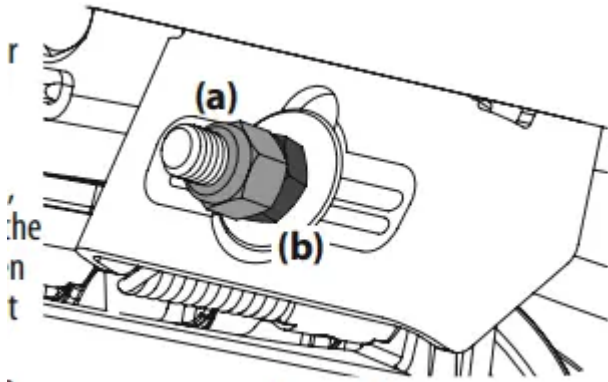

Figure 36
5. To raise the front of the deck, remove the end cap, loosen the outer jam nut (a) then tighten (thread inward) the inner nut (b) against the front hanger bracket. See Figure 36. When proper adjustment is achieved, re-tighten the outer jam nut (a) and replace the end cap.
6. To lower the front of the deck, remove the end cap, loosen the outer jam nut (a) then loosen (thread outward) the inner nut (b), away from the front hanger bracket. See Figure 36. When proper adjustment is achieved, re-tighten the outer jam nut (a) to 57 ft-lbs. (77.28 N-m) and replace the end cap